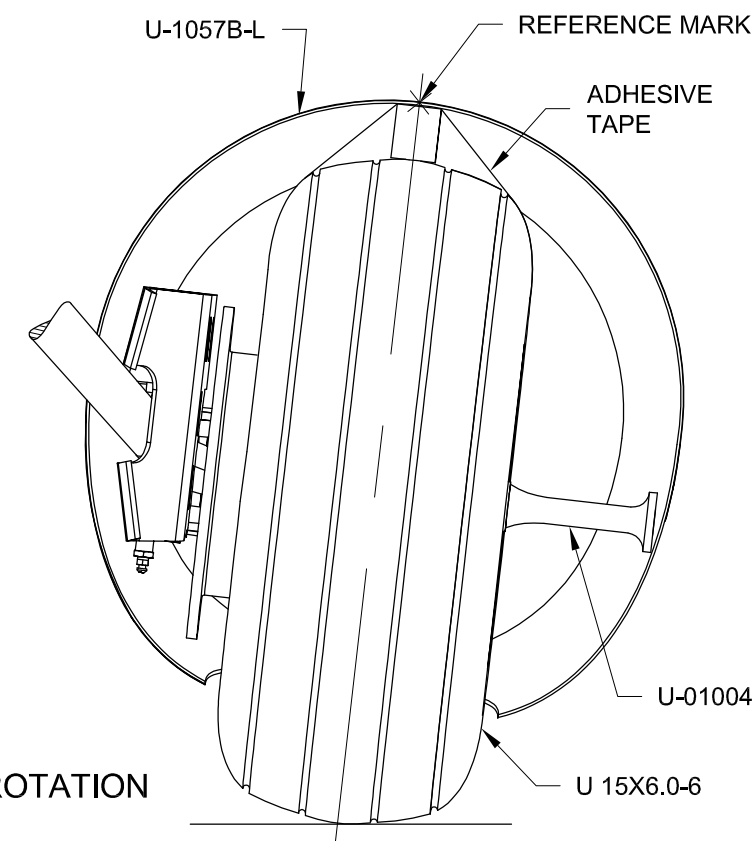

FIGURE 3: ALIGNING FAIRING IN ROTATION
Step 3: Align the U-1057B-L Wheel Fairing Rear in rotation to the tire by using the tire tread as an alignment guide as shown in Figure 3.